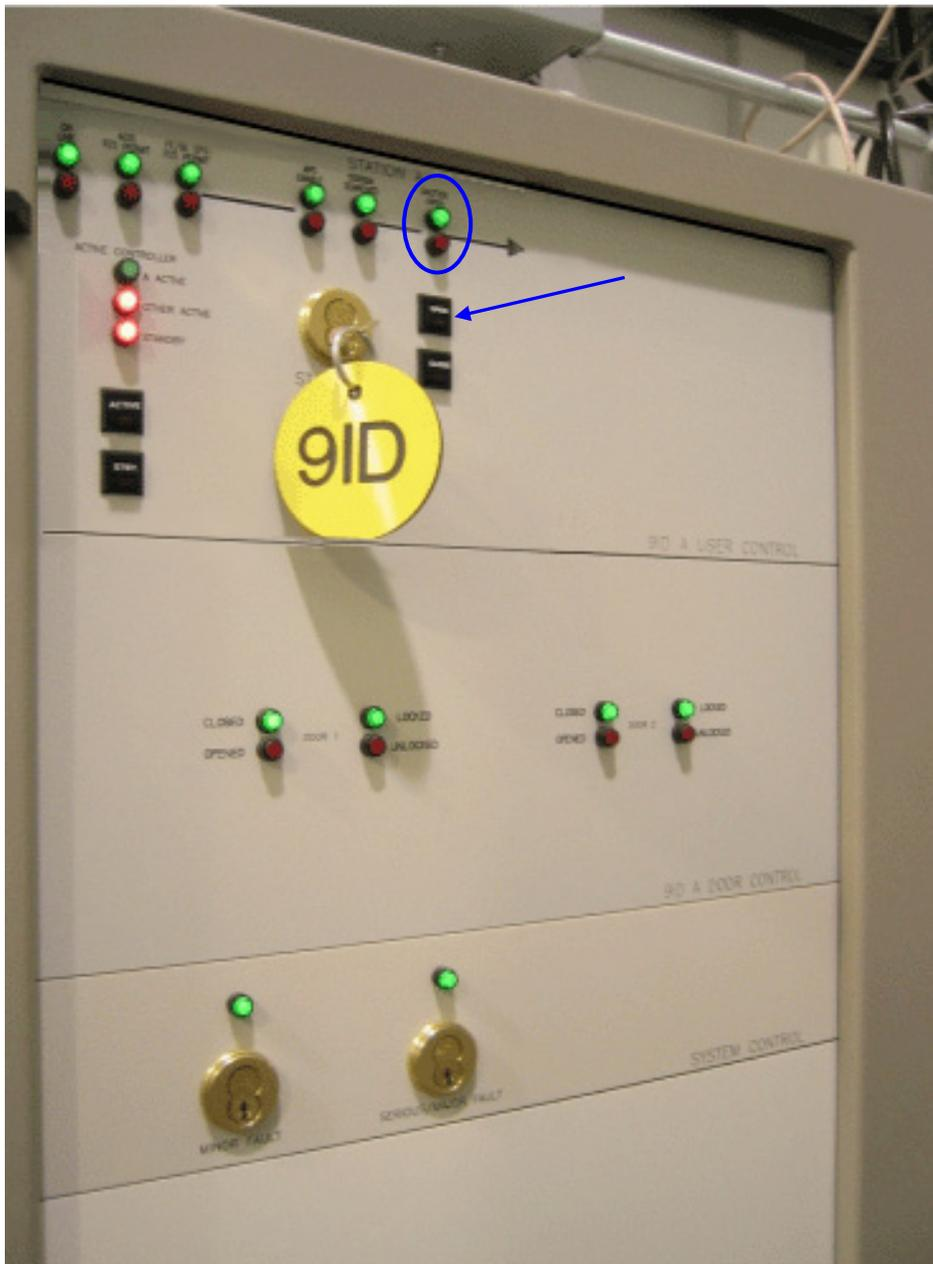

Figure 3: Station-A PSS Panel. Note the location of the Shutter Open LEDs and button.
2. If the shutter has not opened, go the beamline and open it by pushing the “Open” button on the Station-A PSS panel (Figure 3).